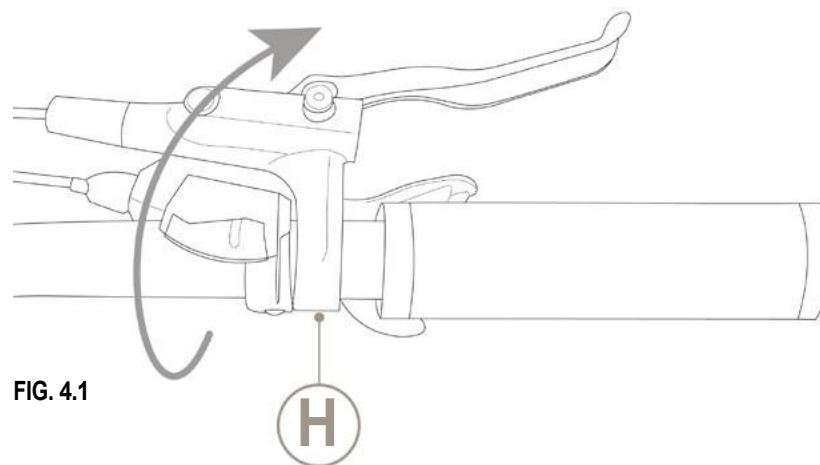

FIG. 4.1
- Rotate the brake lever using the tightening screw (Ref. H - Figure 4.1) until you reach a comfortable hand position; Make sure you have tightened the screw correctly before using the pedal-assisted bicycle.